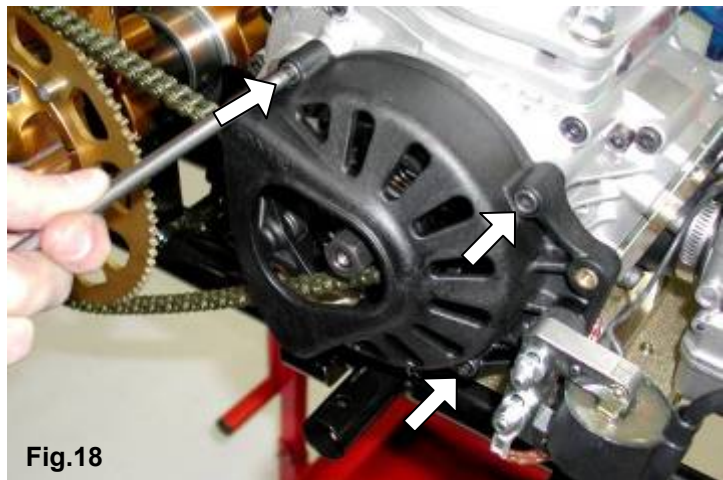

Fig.18
2.8.2 INSTALL THE CLUTCH COVER WITH H.T. COIL (SEE FIG.18).